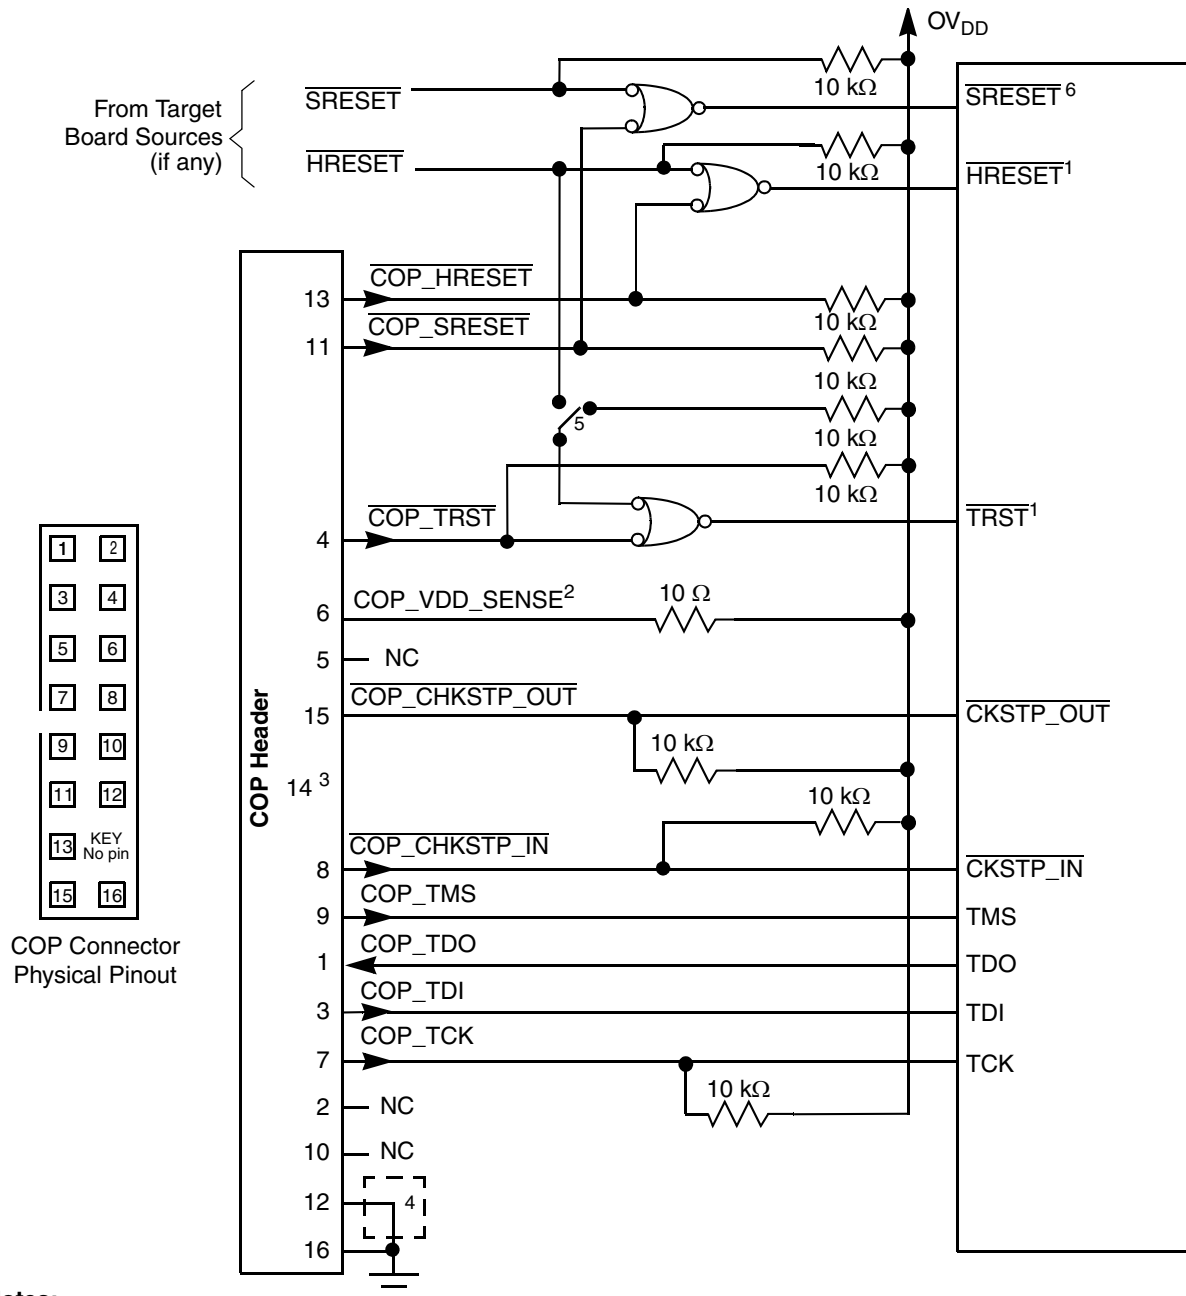

Figure 51. JTAG Interface Connection
Correct operation of the JTAG interface requires configuration of a group of system control pins as demonstrated in Figure 51. Care must be taken to ensure that these pins are maintained at a valid deasserted state under normal operating conditions as most have asynchronous behavior and spurious assertion will give unpredictable results.
- $\overline{\text{TRST}}$  should be tied to  $\overline{\text{HRESET}}$  through a 0 k $\Omega$  isolation resistor so that it is asserted when the system reset signal ( $\overline{\text{HRESET}}$ ) is asserted, ensuring that the JTAG scan chain is initialized during the power-on reset flow. Freescale recommends that the COP header be designed into the system as shown in Figure 51. If this is not possible, the isolation resistor will allow future access to  $\overline{\text{TRST}}$  in case a JTAG interface may need to be wired onto the system in future debug situations.